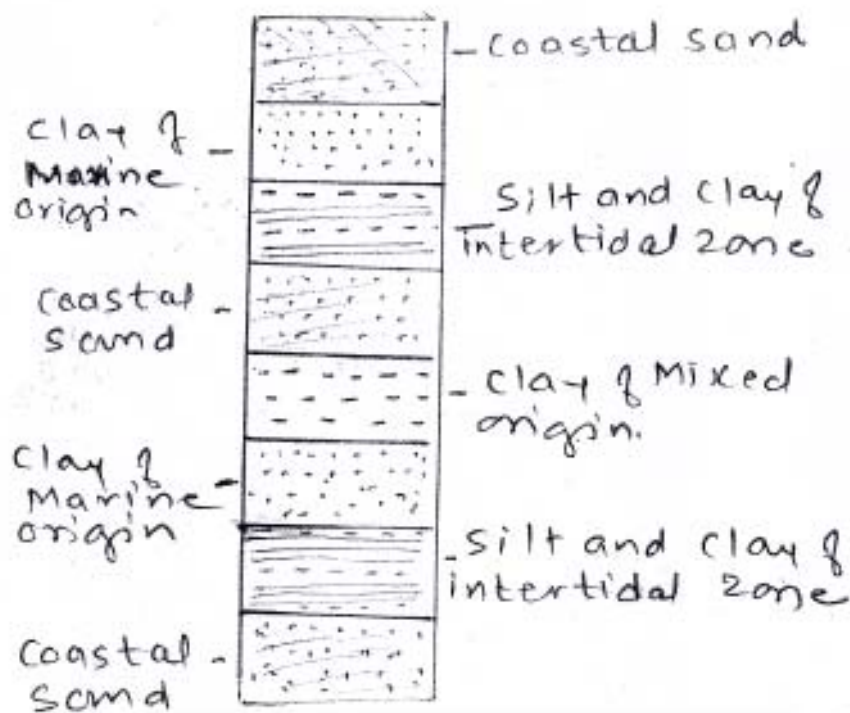

Fig. 2
- B) Reconstruct chronology of events based on emergence and submergence of coast in a sedimentary sequence encountered in preliminary investigations as shown in Fig. 2. Give brief explanations in support of your reconstruction.